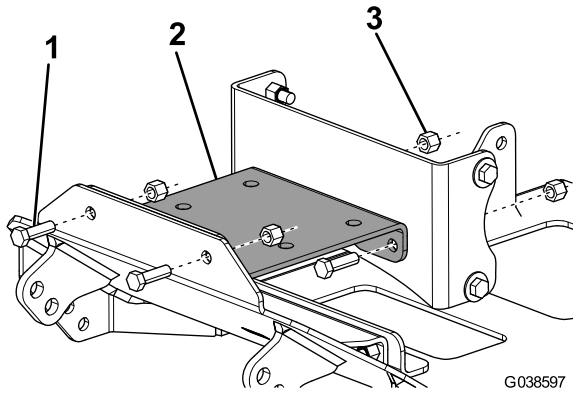

Figure 4
6. Loosely secure the front winch bracket to the plow skid plate and rear winch bracket using 4 bolts (3/8 x 1-1/4 inch) and 4 locknuts (3/8 inch) as shown in Figure 4.